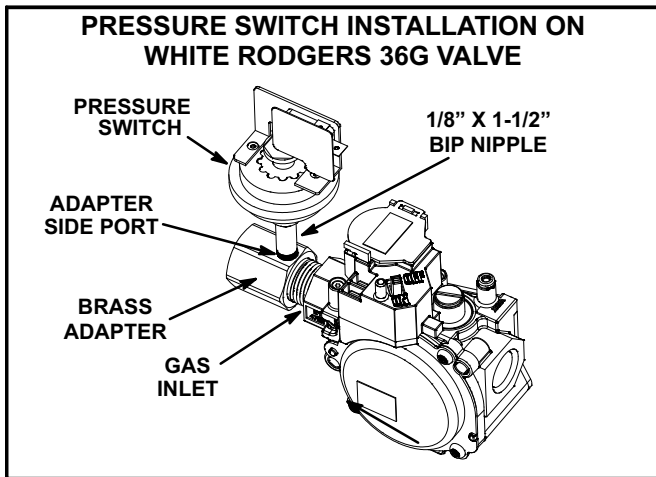

FIGURE 8
- Thread the brass adapter into the gas inlet and tighten by hand. Using the properly sized wrench, tighten the adapter taking care to position the side port as shown in figure 8. Apply pipe thread compound to the adapter threads before connecting to gas valve.